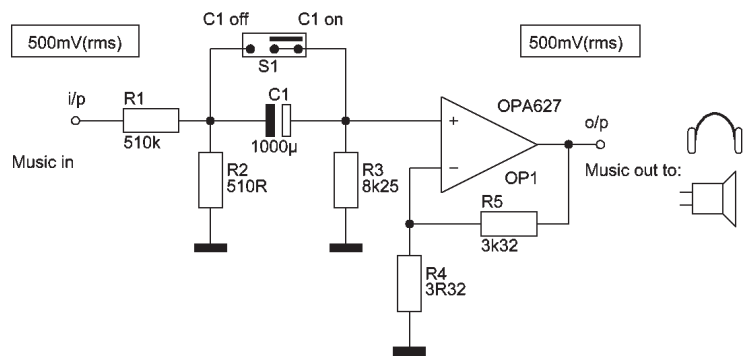

Figure 5: Test circuit for capacitors $C1 = d.u.t.$
The high value of the input capacitor C2 is essential to keep its low-frequency impedance as low as possible. If you have problems with electrolyte capacitors inside the amplification chain, I strongly recommend to read the respective debate in E&WW in 1988, after Self published his pre-pre-amp article in 12-1987. I only did hear tiny differences between very expensive, cheaper and bridged capacitors that I tested with the circuit of **Figure 5**. Finally, I chose one from Panasonic (FC). To exactly hit the RIAA transfer, the value of C7 (2 μ 2) should not be changed. With that, the deviation of the pre-amp's RIAA transfer is of a maximum $\pm 0.1dB$.